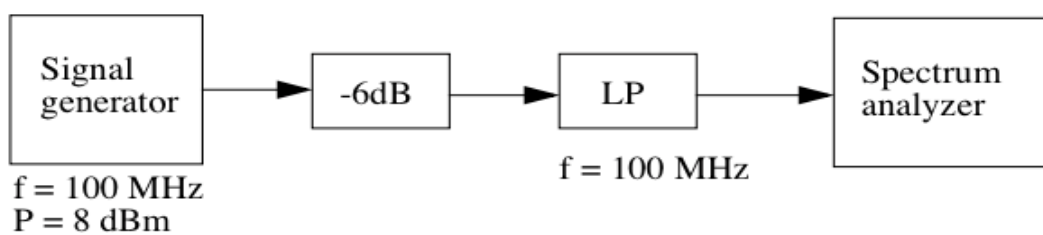

Fig. 2
Connect a 100 MHz low-pass (LP) filter between the attenuator and the Spectrum analyzer, see Fig. 2.